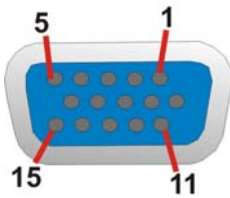

Figure 4-18: VGA Connector
- CN Pinouts:** See **Figure 4-18** and **Table 4-20**